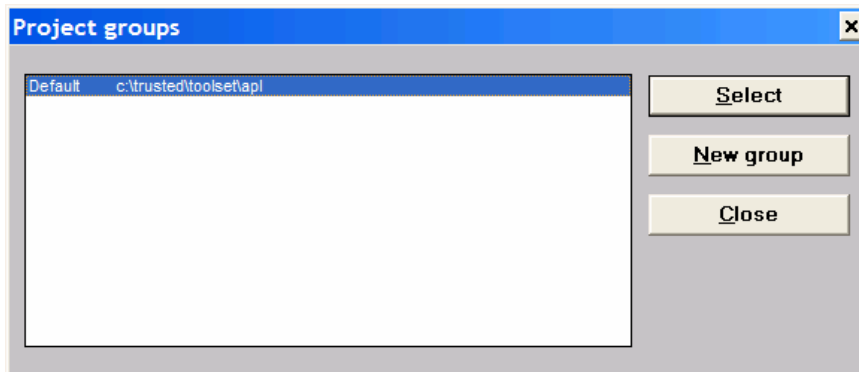
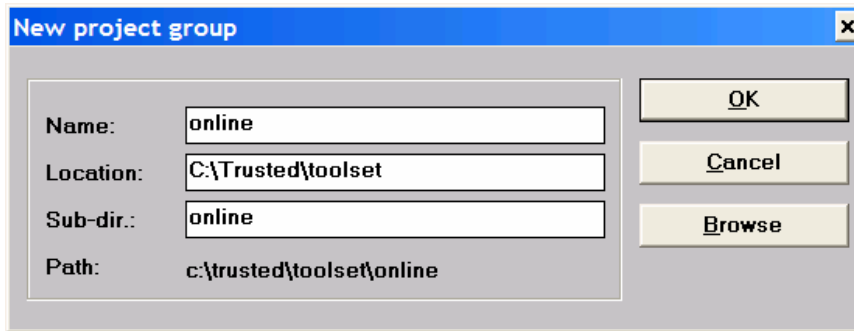

Figure 9-54: Project Groups Dialog Box
Figure 9-55: New Project Group Dialog Box
- a. Toolset projects correspond to directories on the computer hard disk. Create a new Project group using the **File | Select project group** menu selection in the Project Management window. The Project Groups dialog box appears, as shown in Figure 9-54.
- b. Use the **New group** button to create a new project group. You can either assign a group name to an existing directory, or create a new group with a new directory, as shown in Figure 9-55. Groups cannot be selected or created when other editor windows are open. In order to view the new group, you must select it using the **Select** button shown in Figure 9-54.